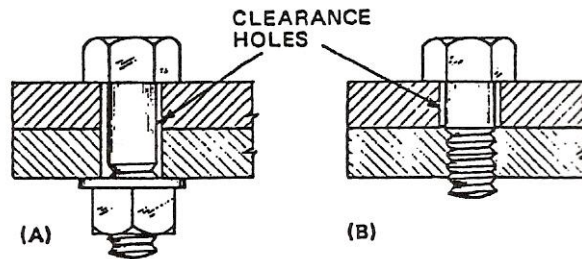

Figure 38 - Clearance Holes
A clearance hole is slightly larger than the bolt, stud or screw that passes through it. When two parts are to be bolted together, Figure 38 (A), both must have clearance holes. When a part is secured to another by means of screws, Figure 38 (B), the outer one must have clearance holes. The clearance enables bolts to be inserted quickly. Without clearance, all bolts cannot be inserted if anyone of the holes is slightly out.